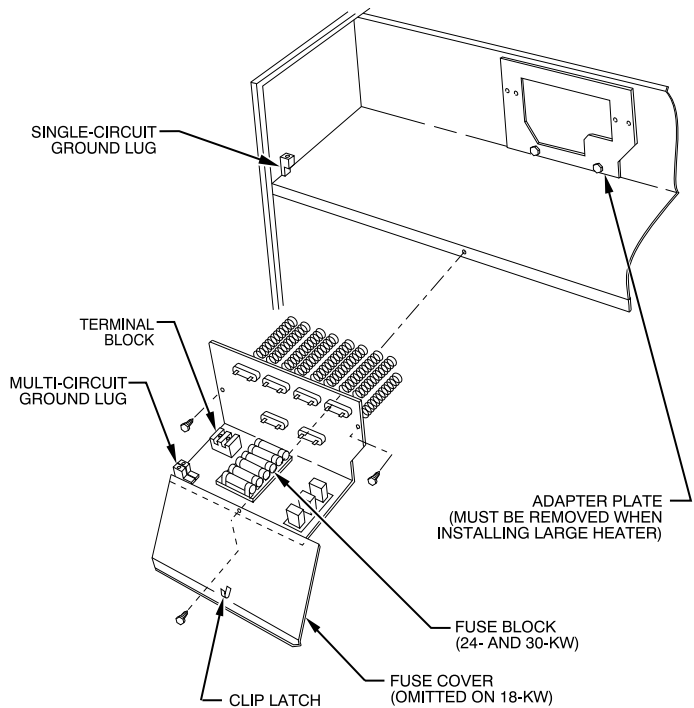

Fig. 1 – Installation of 18-, 24-, and 30-kW Model Heaters
3. Disconnect 2 power wires (black and yellow pigtail leads) from PCB or wire harness (if applicable) and discard. Wires may be part of a plug assembly or attached to terminals L1 and L2. Remove cooling control plate from fan coil (if equipped). For 18-, 24-, and 30-kW heaters, remove adapter plate (Fig. 1).
5. Attach heater control plate to fan coil using 2 screws provided. For 18-, 24-, and 30-kW heater models, attach front of heater to fan deck using third screw (Fig. 1).
Fuse assembly is mounted on heater. Be sure fuse cover is closed by engaging clip latch on unit top panel (Fig. 1).